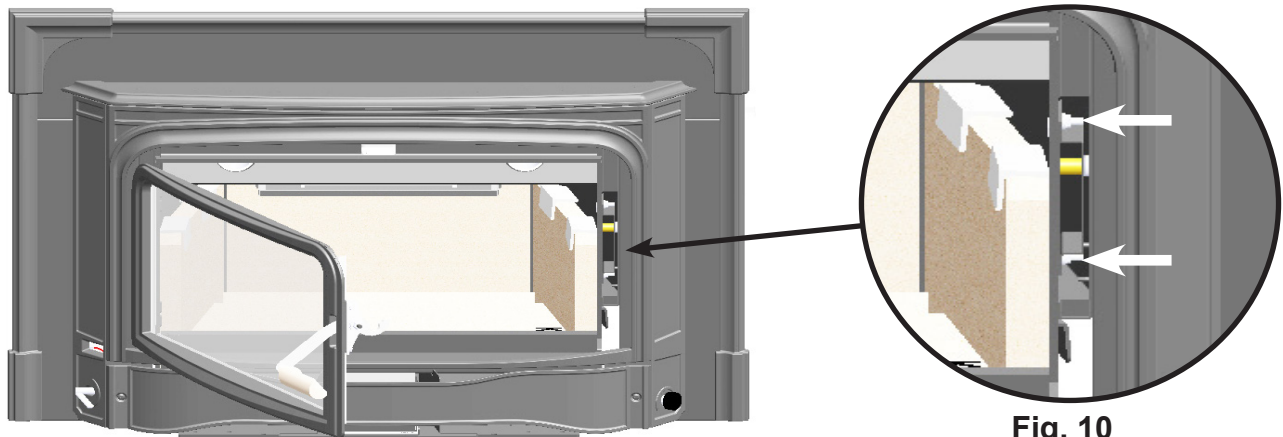

Fig. 10
1. Open the loading door to gain access to the latch catch on the right side of the firebox. (**Fig. 10**)